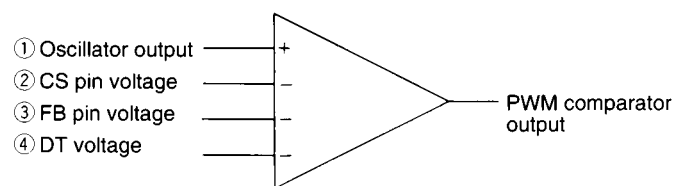
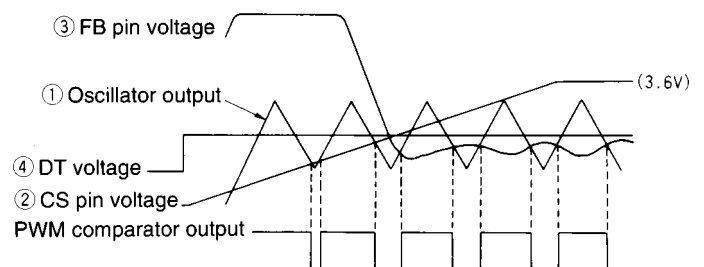

Fig. 3 PWM comparator
Fig. 4 PWM comparator timing chart
The PWM comparator has four inputs as shown in Figure 3. Oscillator output ① is compared with CS pin voltage ②, FB pin voltage ③, and DT voltage ④. The lowest of three inputs ②, ③, and ④ is compared with output ①. If it is lower than the oscillator output, the PWM comparator output is high, and if it is higher than the oscillator output, the PWM comparator output is low (see Fig. 4).